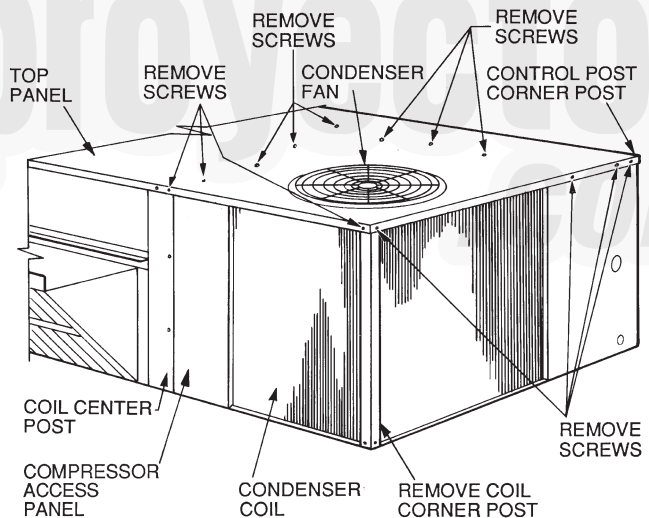
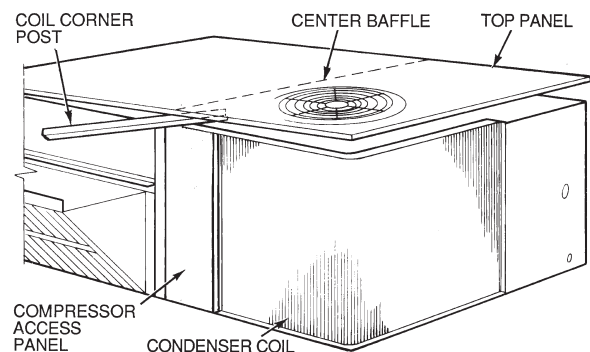

Fig. 12 — Cleaning Condenser Coil
Fig. 13 — Propping Up Top Panel
3. Remove coil corner post. See Fig. 12. To hold top panel open, place coil corner post between top panel and center post. See Fig. 13.